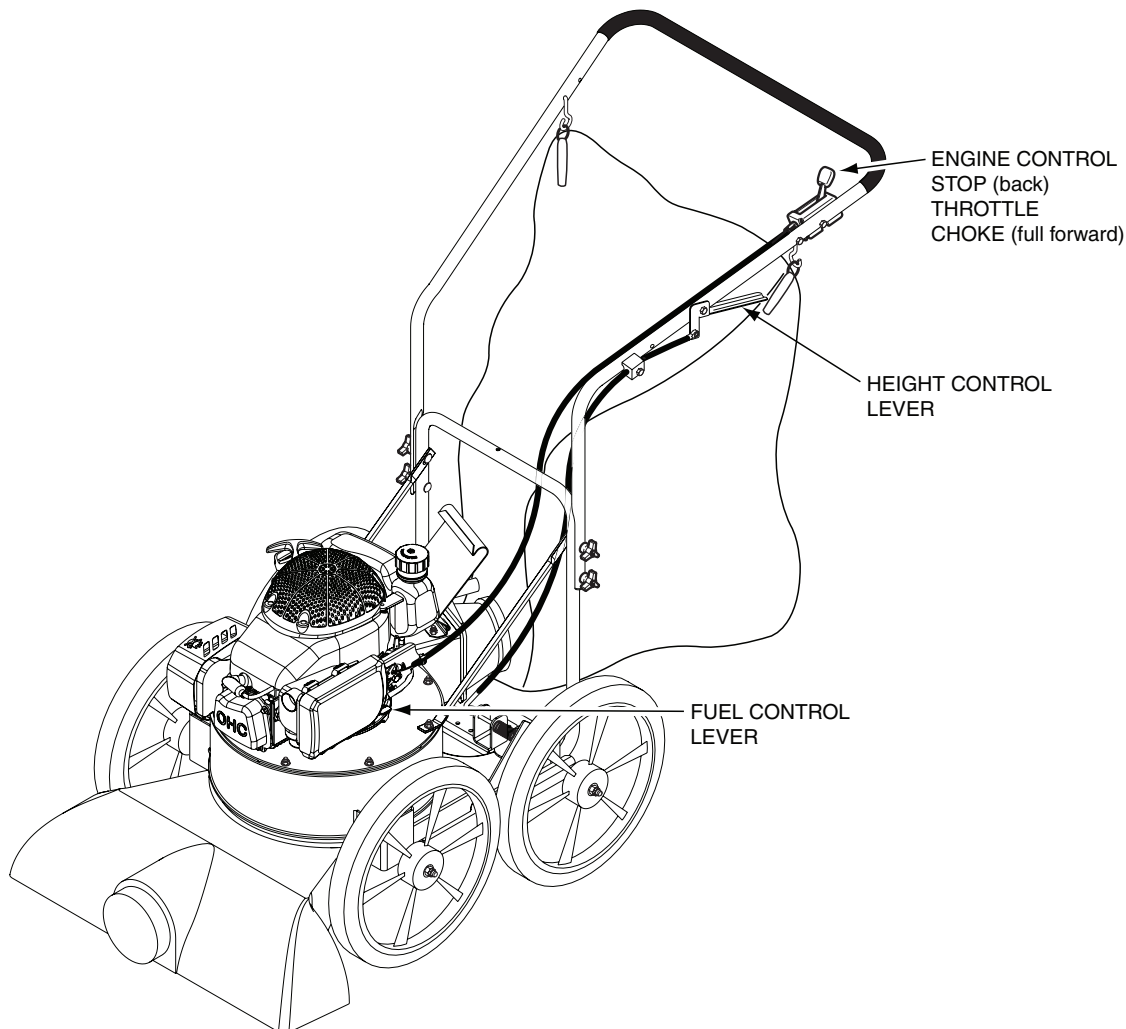

Figure 4-1. Controls and Instruments
1. **Engine Control (Figure 4-1).** The engine control is used to start, stop and control the engine speed. Push the lever all the way forward to engage the engine choke before pulling the recoil starter when starting a cold engine. Once the engine starts, pull the control back to the detent for full engine speed. Pulling the lever back will decrease the engine speed. Pulling the lever all the way back will stop the engine.
2. **Fuel Control Lever (Figure 4-1).** Used to control the fuel supply to the engine.
3. **Height Control Lever (Figure 4-1).** Used to control the height of the vacuum intake. Lift up on the handle bar and squeeze the height control lever to release the locking pin. Raise and lower the handle bar until the desired inlet height has been obtained. Release the height control lever.
2. Be sure the fuel control lever, located on the left side of the engine, is completely open. See Figure 4-1.